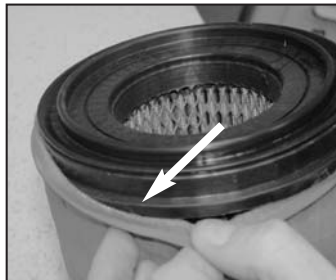

Fig. 1
3. Install the Drycharger onto the K&N filter, ensuring that the wrap is secured over the lip. See Fig 1.